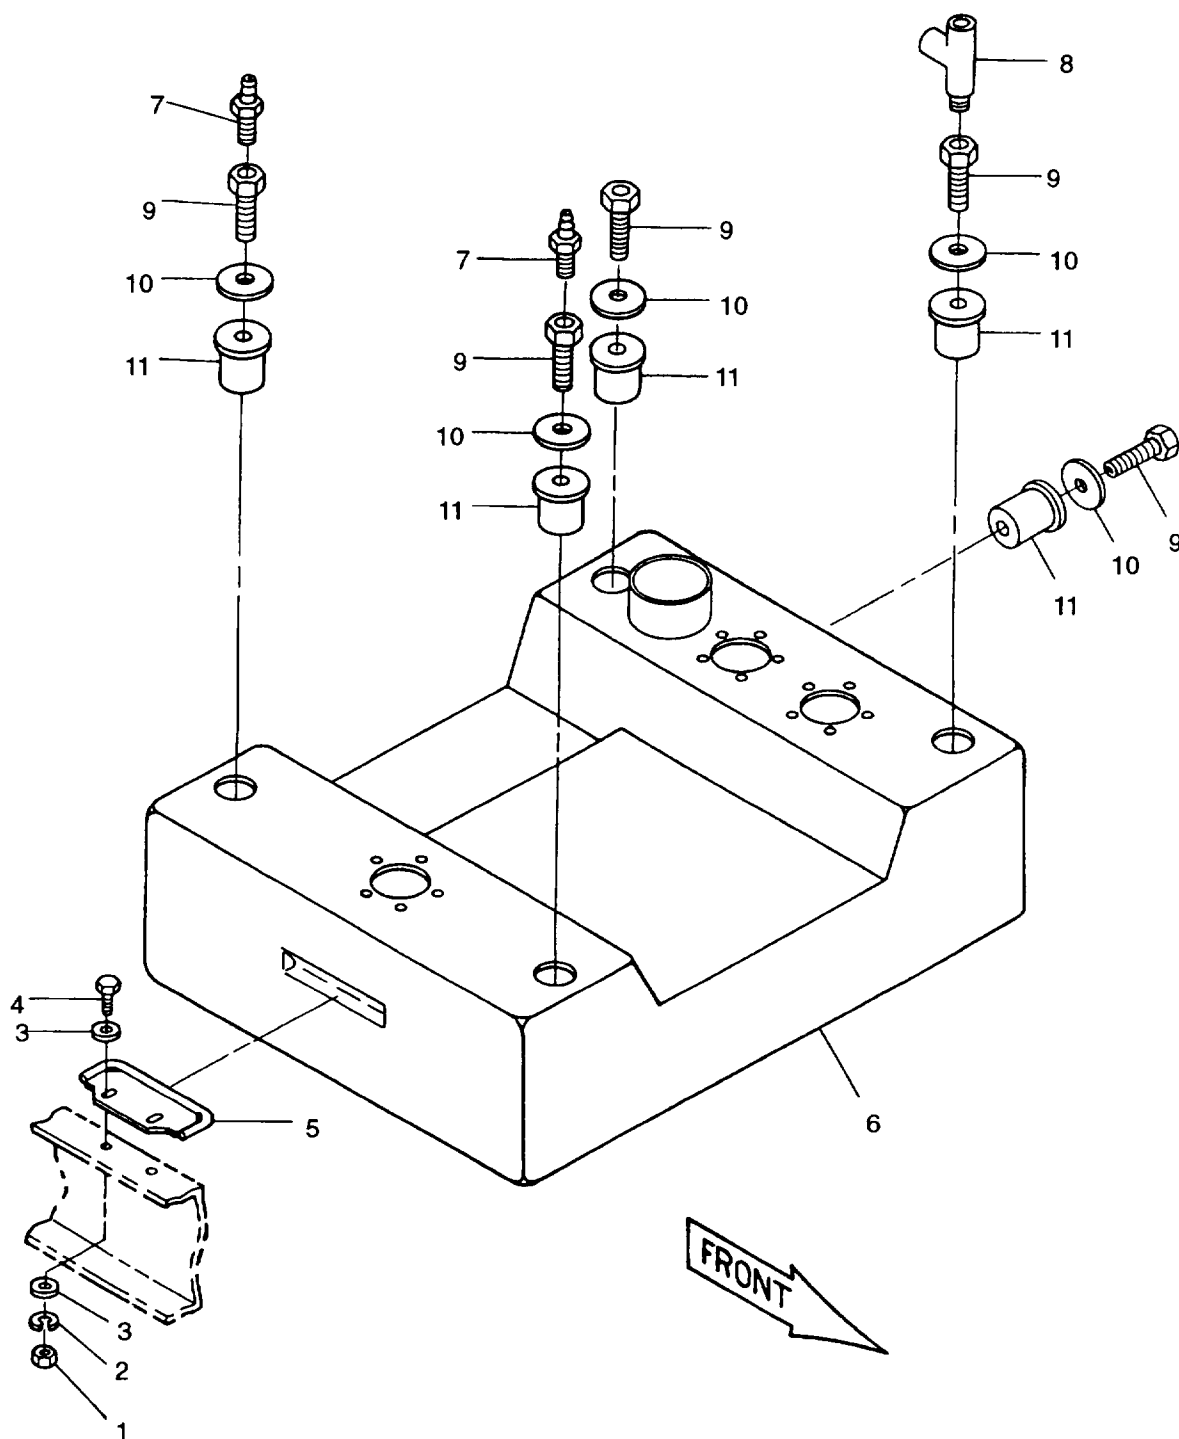

FIGURE 4-2. Fuel Tank
- c. Inspect fuel tank (6, FIGURE 4-2) for leaks, cracks, missing hardware, and other damage.
- f. Remove nuts (1, FIGURE 4-2), lockwashers (2), washers (3), bolts (4), and plates (5) securing fuel tank to skid base.
- g. Remove fuel tank (6) from skid base.
- k. Remove fittings (7) from excess fuel studs (9) on right side of tank.
- l. Remove fitting (8) from excess fuel stud (9) on left side of tank.
- m. Remove studs (9), washers (10), and bushings(11) from fuel tank.
- b. Install bushings (11, FIGURE 4-2), washers (10), and studs (9) in fuel tank (6).
- c. Install fitting (8) in excess fuel stud (9) on left side of fuel tank.